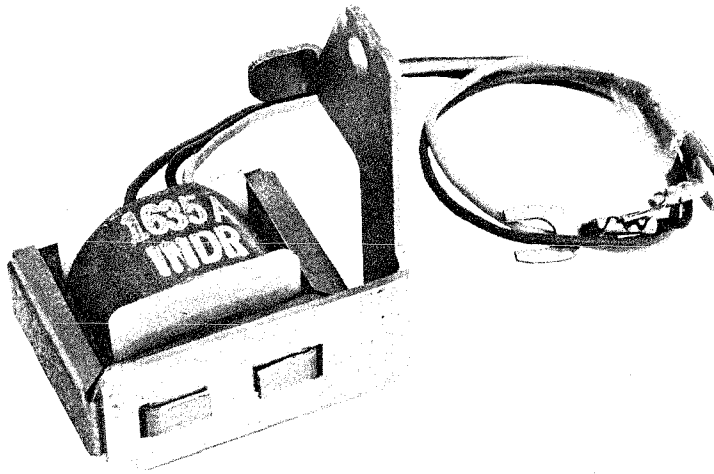

Fig. 13 — 1635A Inductor
If no ringer is in place, the 1635A inductor must be used for identification. (See Fig. 13 and 14).
3.13 Where no ringer is used with a 701 type telephone and tip-party identification is required, a 1635A inductor shall be installed in the Princess set as shown in Fig. 13 and 14. The inductor is ordered separately. The procedure for installing is as follows: